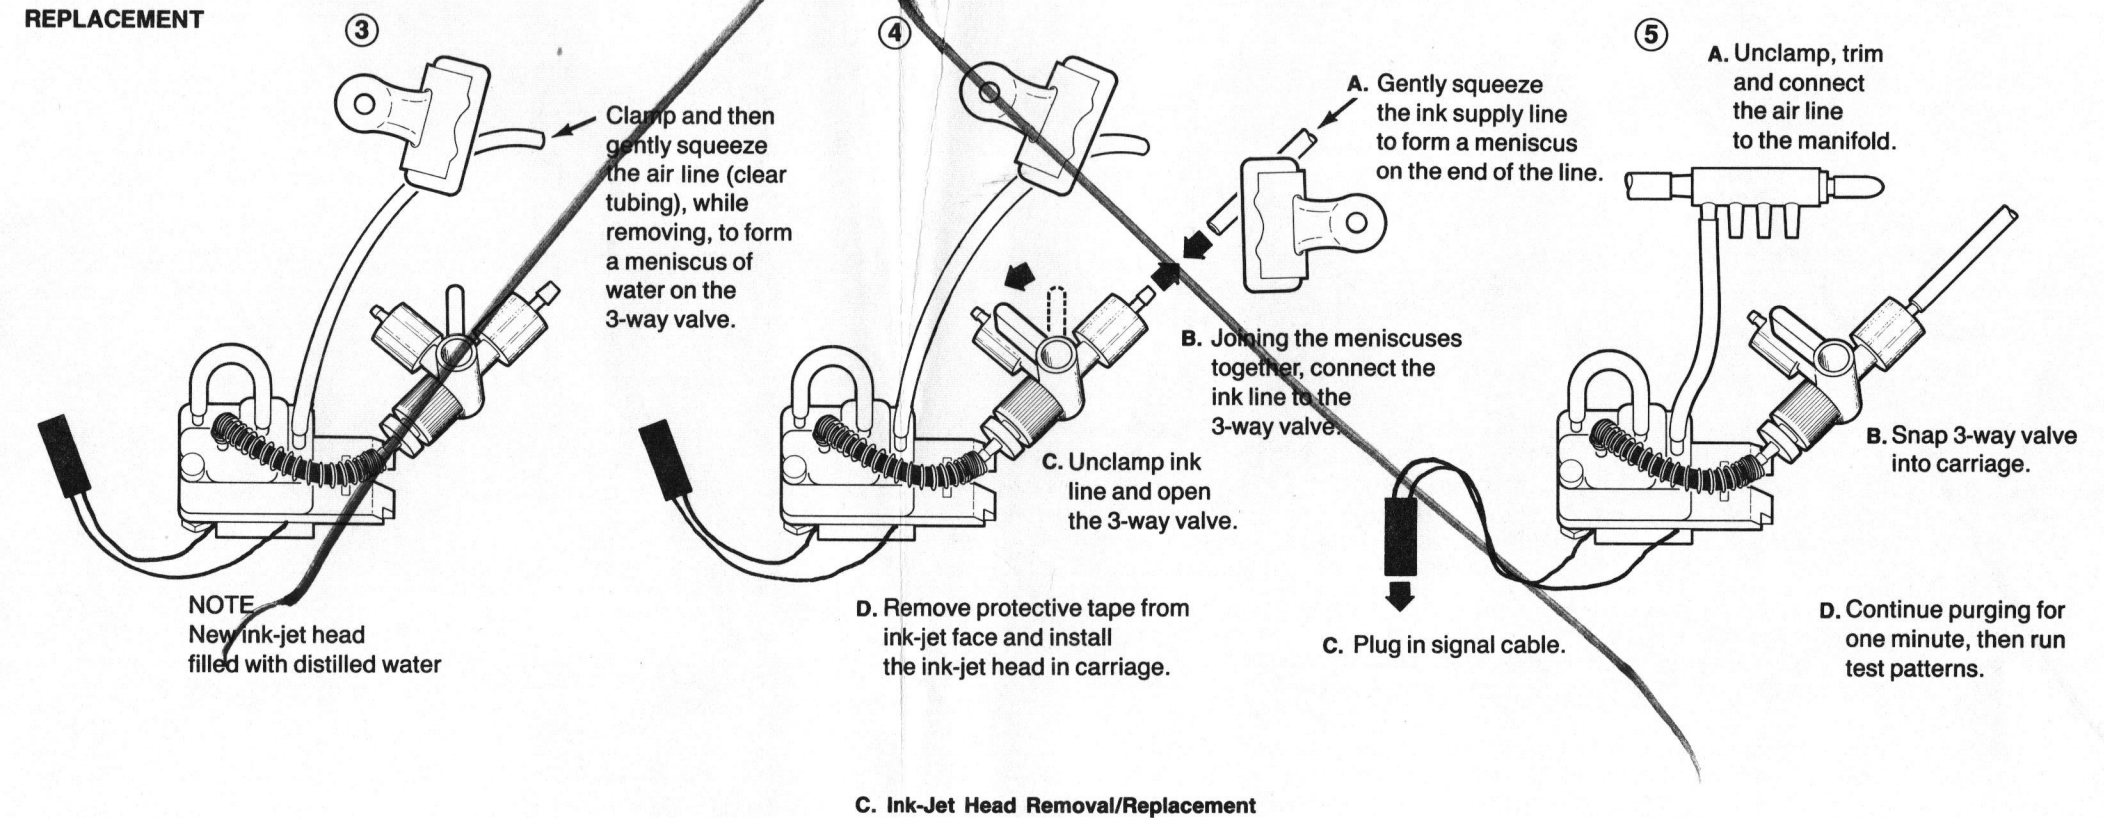

Figure 6-6. Ink-jet Head Replacement Procedure.
- Figure 6-6 illustrates the removal and replacement procedures.